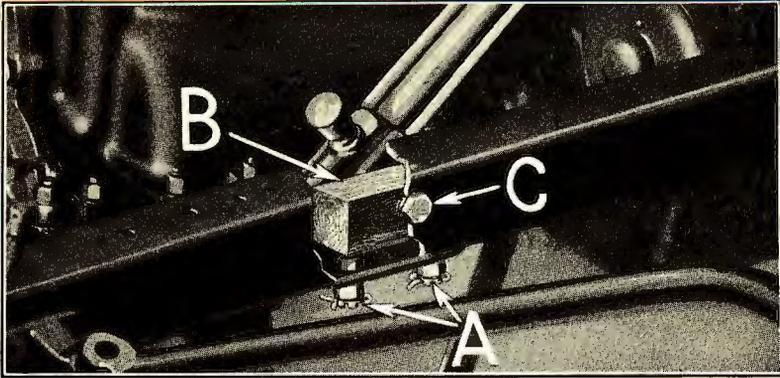

Fig. 97
- (c) Position steering gear bracket on frame. Insert the two steering gear bracket bolts—short through frame and bracket. Run down nuts tightly on ends of bolts and lock with cotter keys (See "A" Fig. 97).